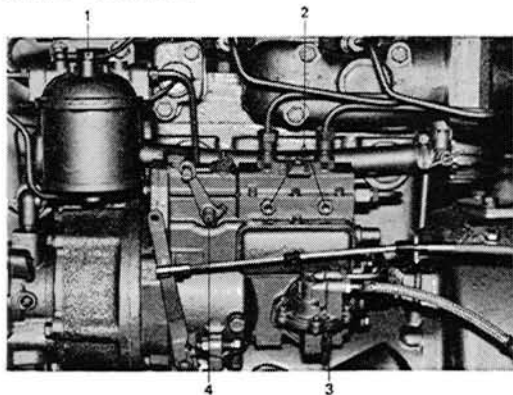

Fig. 6 Fuel injection pump and fuel filter
- a) With the feed pump manual pumping lever (Fig. 6, pos. 3), pump up the fuel.
- b) Then slacken the nipple bolt for the return oil line to the fuel tank. This is fitted on the fuel filter. See Fig. 6, pos. 1. Pump again with the manual pumping lever until fuel free from air bubbles flows out.
- c) Open the front bleed screw on the fuel injection pump. See Fig. 6, pos. 2. Pump further with the manual pumping lever until fuel free from air bubbles flows out. Close the bleed screw.
If the engine is used during cold weather, place the control lever in position for $\frac{1}{4}$ max. engine speed and at the same time push in the cold start button on the fuel injection pump to get extra starting fuel. See Fig. 6, pos. 4.